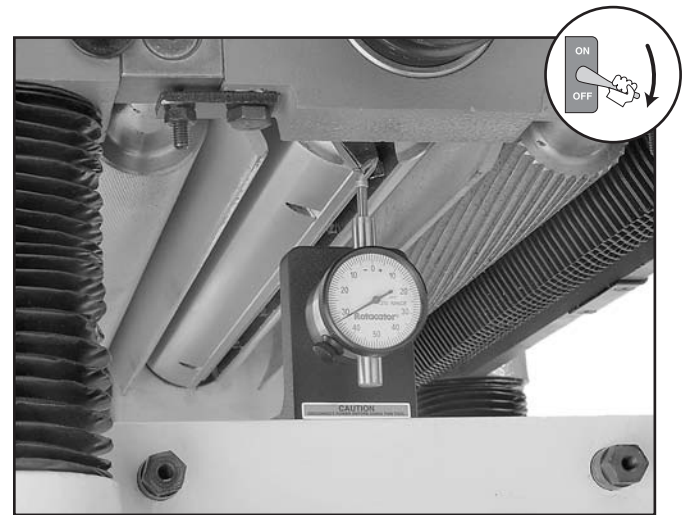

Figure 43. Using a Rotacator to find BDC.
5. Using your Rotacator, find the BDC of any knife edge by slowly rocking the cutterhead pulley back and forth, then set the Rotacator dial to zero (see **Figure 43**).